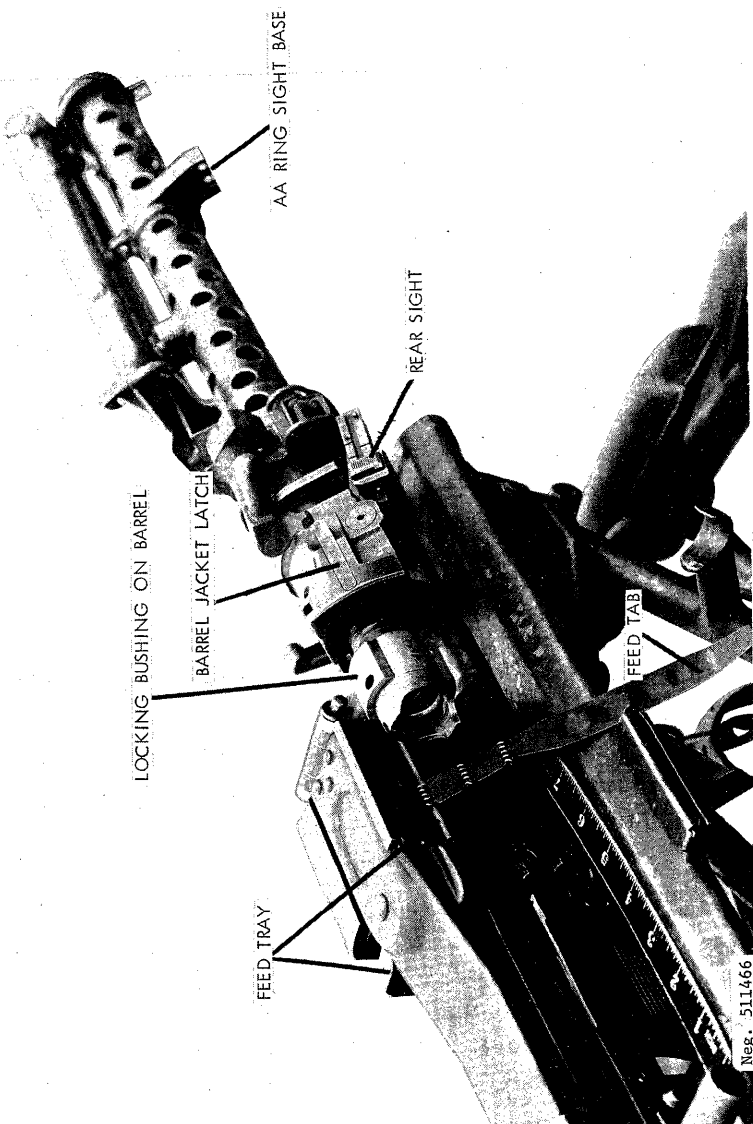

Figure 167. MG34 barrel change.
g. The high cyclic rate of fire causes the MG34 barrels to heat very rapidly, and provision is made for quickly changing the hot barrel for a cool one. To change barrels, pull the operating handle to the rear and, using gloves, press the barrel jacket latch (beneath the rear sight) (fig 167) and rotate the receiver counterclockwise in relation to the barrel jacket. Lower the butt, and the barrel will slide out of the jacket. **CAUTION: It is hot—use gloves to handle it.** Insert a cool barrel in the jacket, insuring that it is fully forward in the jacket. Swing the receiver over to the left, push the operating handle forward, and recommence firing.